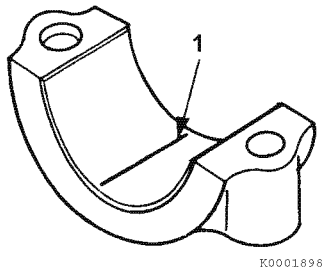

Figure 6-61
- 2- Place a piece of PLASTIGAGE (**Figure 6-61, (1)**) along the full width of each bearing insert.